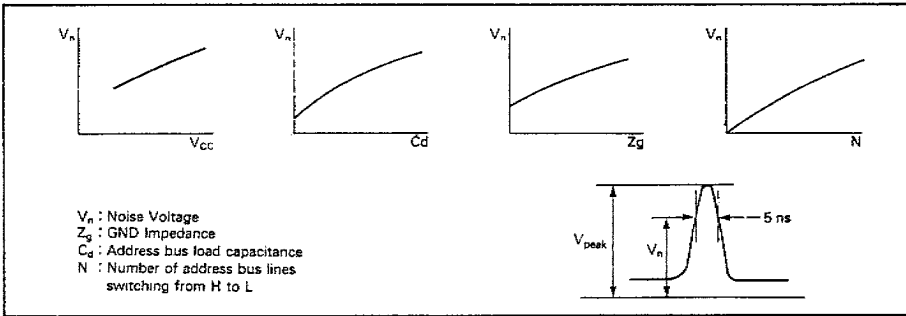

Figure 23. Dependency of the Noise Voltage on Each Parameter
Figure 23 shows the noise voltage dependency on the each parameter.
1. Control each parameter such as C_d , V_{CC} , Z_g in figure 23, and the noise level is reduced to be allowable.